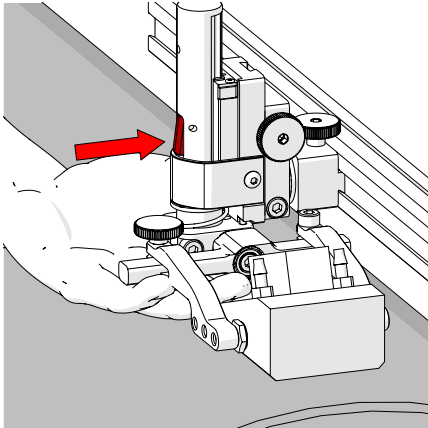
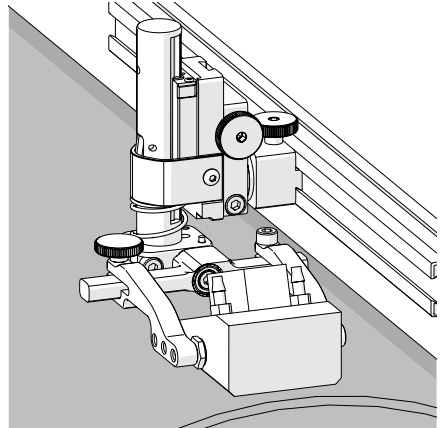

Fig. 111 - Press latch button
Fig. 112 - Lower toward scan surface
4. Lift the yoke slightly and press the latch button (Fig. 111), then slowly lower towards scanning surface to apply spring pressure to the wedge (Fig. 112).